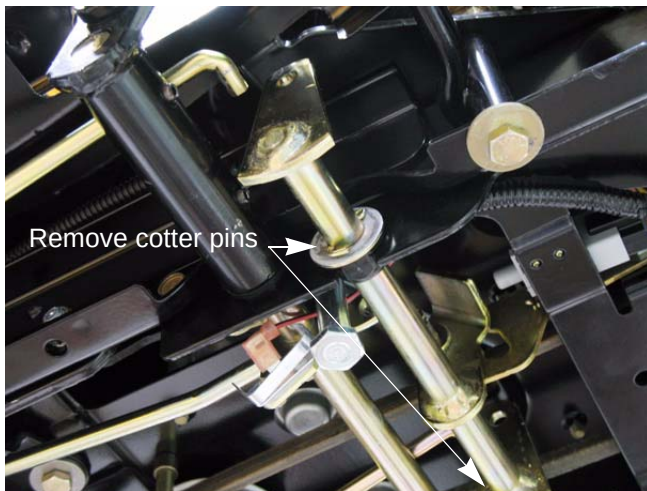

Figure 3.12
2. Remove the cotter pins on each end of the brake shaft. See Figure 3.12.